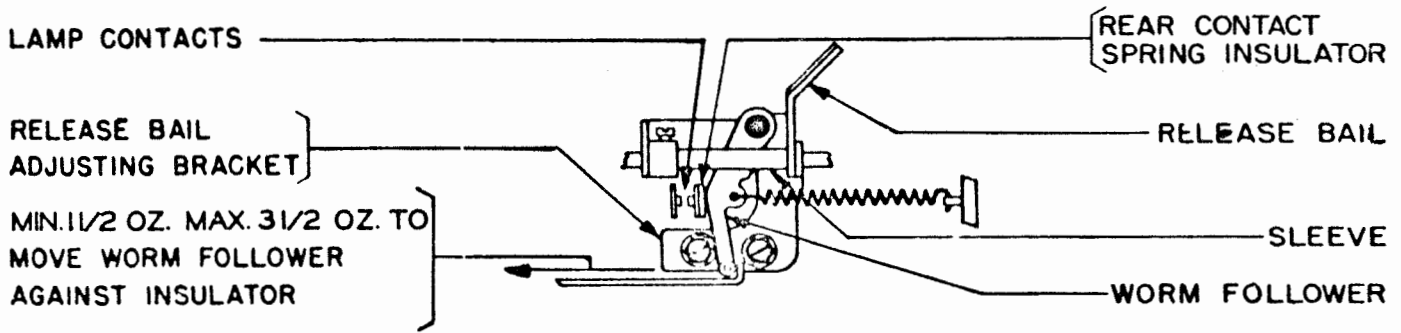

Figure 5
2.11 Worm-follower Spring: The spring should have a tension of minimum 1-1/2 ounces, maximum 3-1/2 ounces at a point where the worm-follower just touches the rear contact-spring insulator. (See Figure 5.)